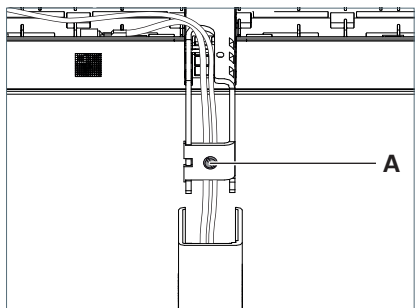

Fig. 17: Adjusting the luminaire head.
- ▶ To lift the luminaire head a little, screw the adjusting screw **A** anti-clockwise by one turn, see Fig. 17.